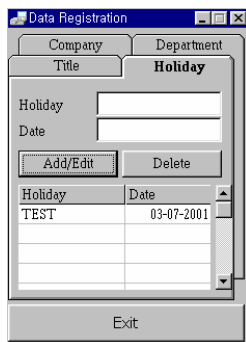

Figure 2.4
- Clicking 'Date' field (Fig 2.4) opens a calendar. You can choose a date and it will be entered in the 'Date' field. You can also make direct input by typing in 'MMDDYYYY' in the 'Date' field. (You can leave the code field blank for the option.)